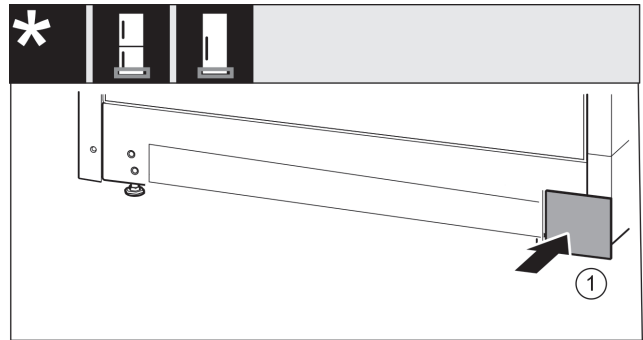

Fig. 19
- Re-attach the cover Fig. 19 (1) to the other side.